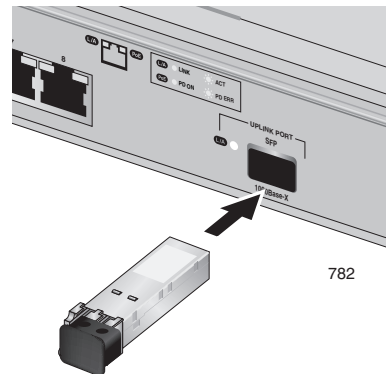

Figure 10. Inserting the SFP
4. Slide the SFP transceiver into the SFP slot on the switch, as shown in Figure 10.